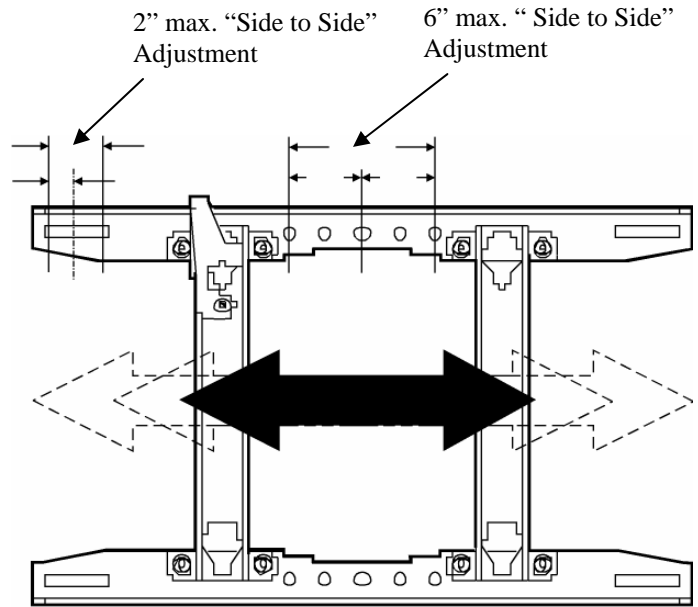

Figure 5. MSR Positioning Adjustments
1. Place MSR against wall and align MSR upper mounting holes with upper pilot hole(s) in wall. (see Figure 5).
NOTE: Once mounted on wall, MSR location can be adjusted up to a maximum of one inch right or left of slot center, if using slotted mounting holes, or up to a maximum of three inches right or left if mounted using the single stud mounting holes (see Figure 5).